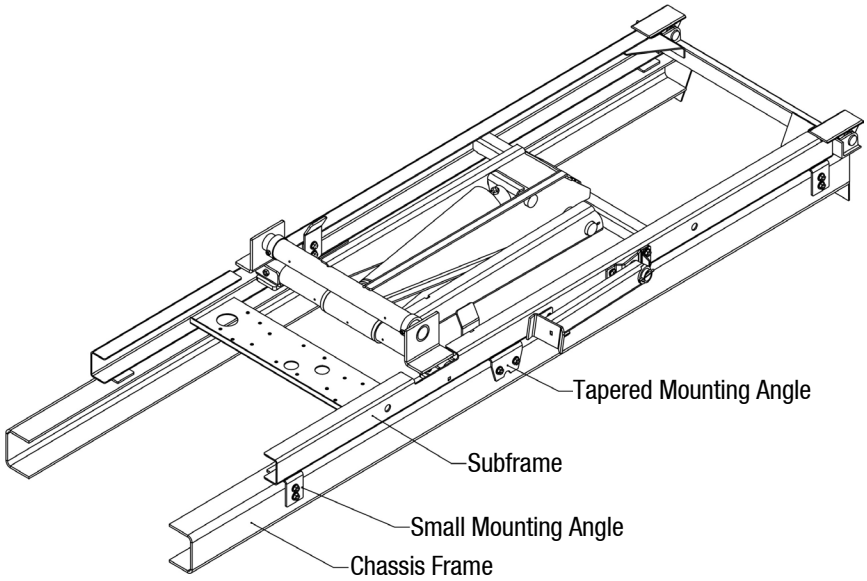

Figure 5: Sub-frame Mounting
2. Secure each mounting angle to the truck frame by drilling two $17/32$ " diameter holes and bolting the mounting angles to the truck frame using two $1/2$ " GR5 bolts and nuts (Figure 5).
3. Weld each mounting angle to the sub-frame rail, keeping within the guidelines shown in Figure 5. DO NOT weld the mounting angles to the chassis frame.